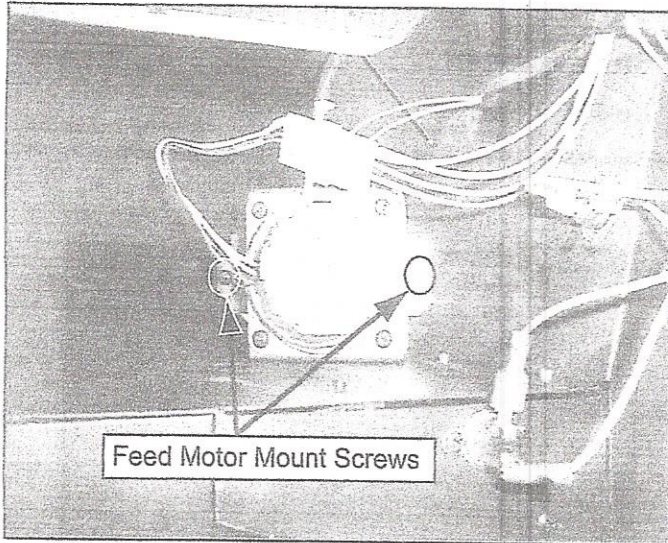

Figure 7
2. Disconnect the molex or spade connectors. Remove the 2 screws from the feed motor mount. Figure 7.